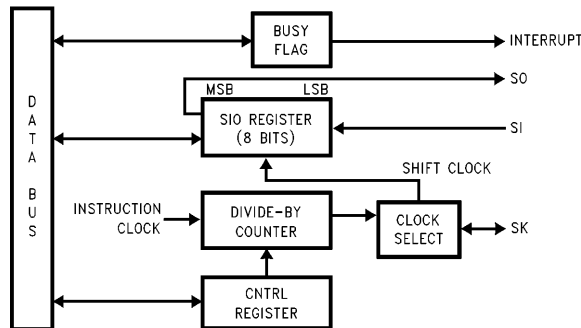

FIGURE 19. MICROWIRE/PLUS Block Diagram
MICROWIRE/PLUS is a serial synchronous communications interface. The MICROWIRE/PLUS capability enables the device to interface with any of National Semiconductor's MICROWIRE peripherals (i.e., A/D converters, display drivers, E2PROMs etc.) and with other microcontrollers which support the MICROWIRE interface. It consists of an 8-bit serial shift register (SIO) with serial data input (SI), serial data output (SO) and serial shift clock (SK). Figure 19 shows a block diagram of the MICROWIRE/PLUS logic.